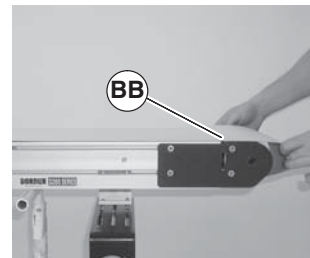

Figure 33
- Install belt (Figure 33, item BB) on conveyor. Lift conveyor slightly to avoid pinching belt on temporary support stands.